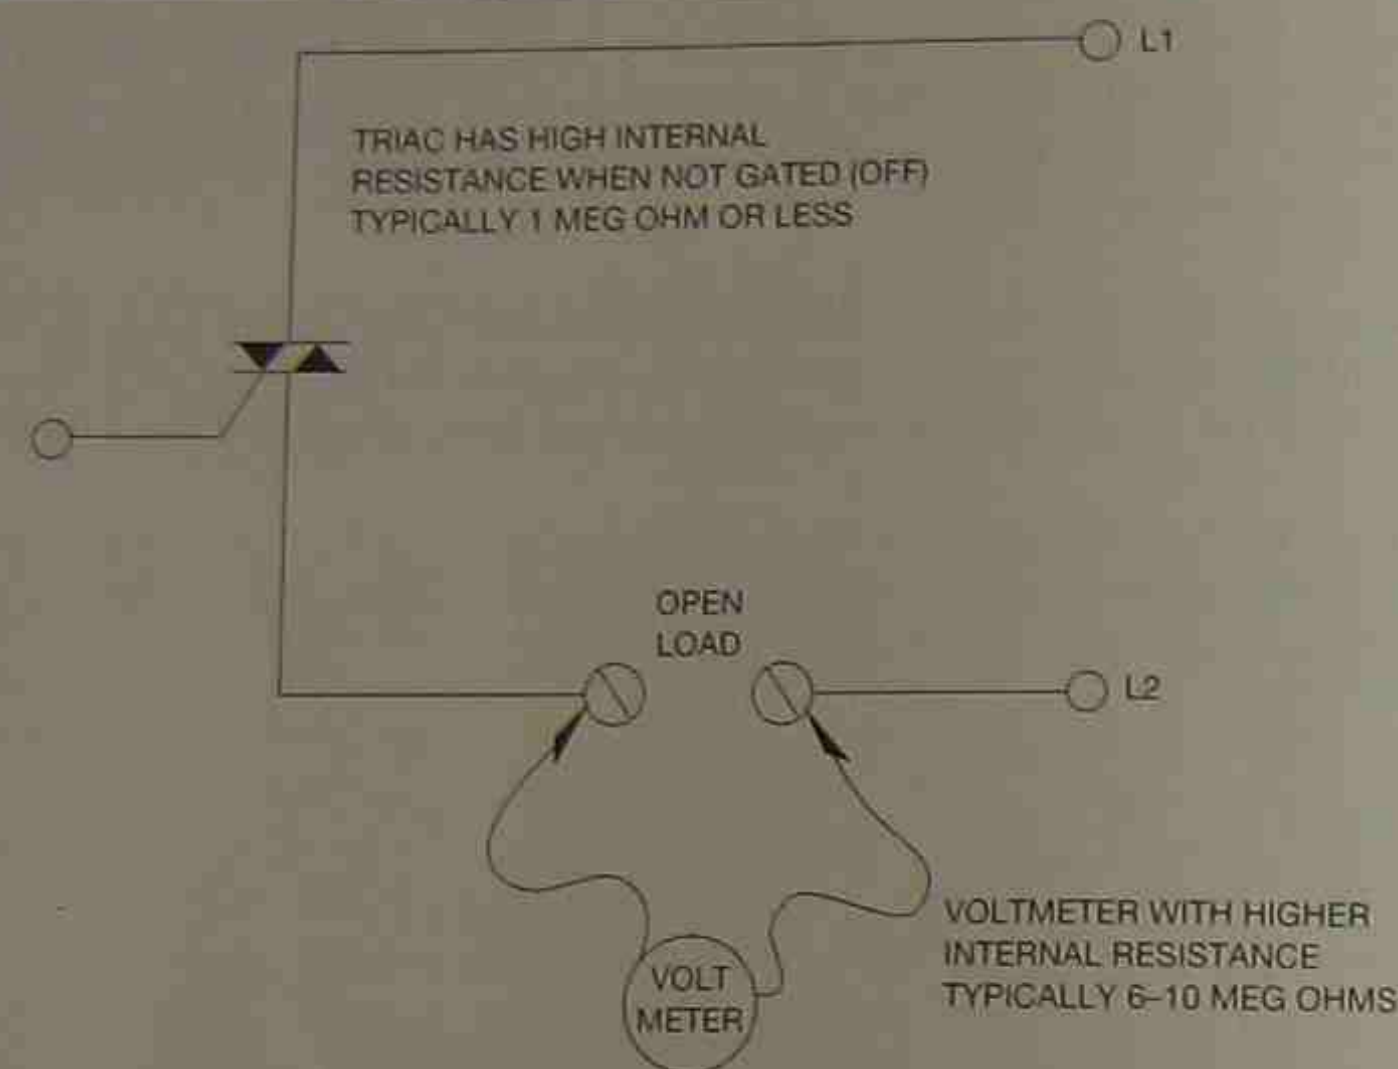
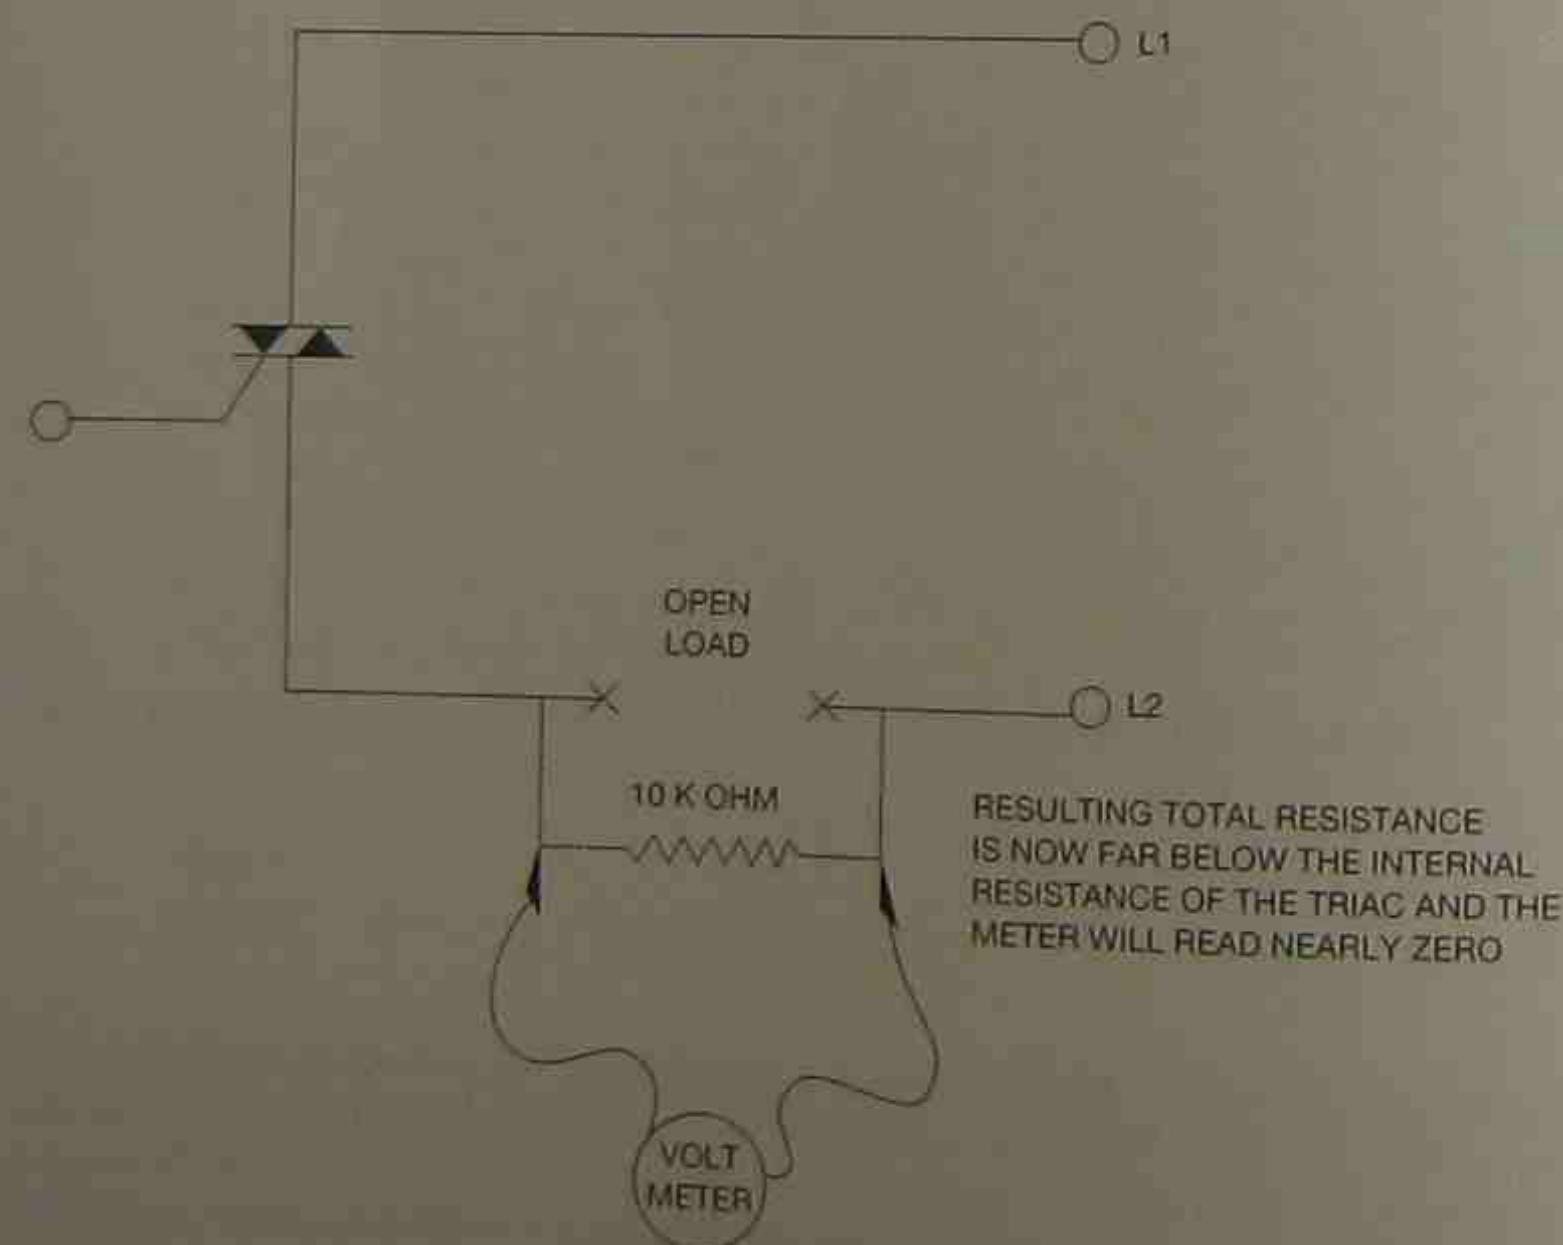

Figure 20-9 Series Voltage Divider Effect When Reading Across an Open Load
Figure 20-10 Adding a Resistor in Parallel with Meter to Reduce Voltage Divider Effect
**Note:** When testing AC output modules, the high internal resistance of most analog or digital meters act like a series voltage divider when measuring across an open load (Figure 20-9). The result is a reading of nearly full voltage even after the triac has been turned OFF. For accurate readings, a 10K ohm resistor can be placed in parallel with the meter leads as shown in Figure 20-10, or a solenoid-type tester (Wiggins) with low internal resistance can be used.